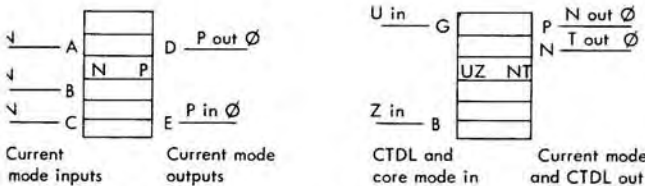

Figure 14. Examples of Line Coding
**Input lines** (Figure 14). A maximum of eight input lines can be shown entering the left side of the logic block. If the inputs are of the same line type, the appropriate symbol for the line type is indicated in the first printing position of line 3. To indicate multiple inputs of different line types, the input lines are grouped such that the first symbol on line 3 indicates the line type of the upper input(s) and the second symbol on line 3 indicates the lower input(s).
**Output lines** (Figure 14). A maximum of eight output lines can be shown leaving the right side of the logic block. Outputs from the upper half of the block indicate an out-of-phase signal, while outputs from the lower half of the block indicate an in-phase signal. In many blocks the in-phase and out-of-phase outputs are of the same line type and are indicated by the appropriate symbol in printing position 4. In blocks having multiple outputs of different line types, the symbol in printing position 3 indicates the line type of the upper output and the symbol in printing position 4 indicates the line type of the lower output.